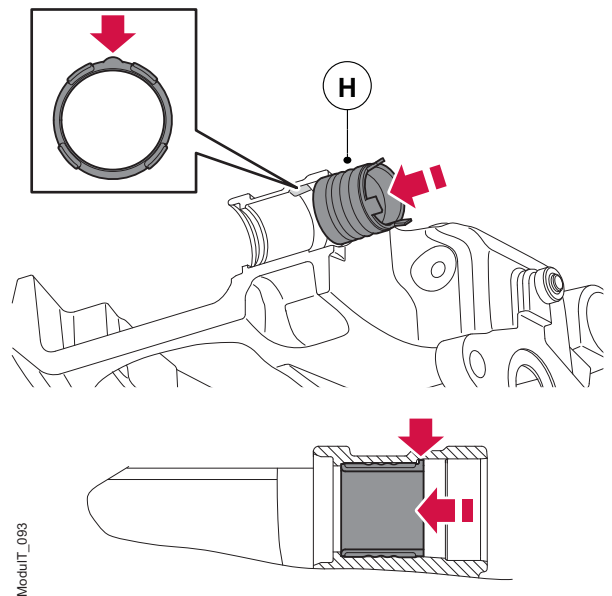

Figure 61. Inserting the trailing side composite bushing
5. To install the new composite bushing (H) on the trailing side, by hand, push the composite bushing into place, until it bottoms out. Ensure the index lug locates correctly in the calliper slot, see figure 61.